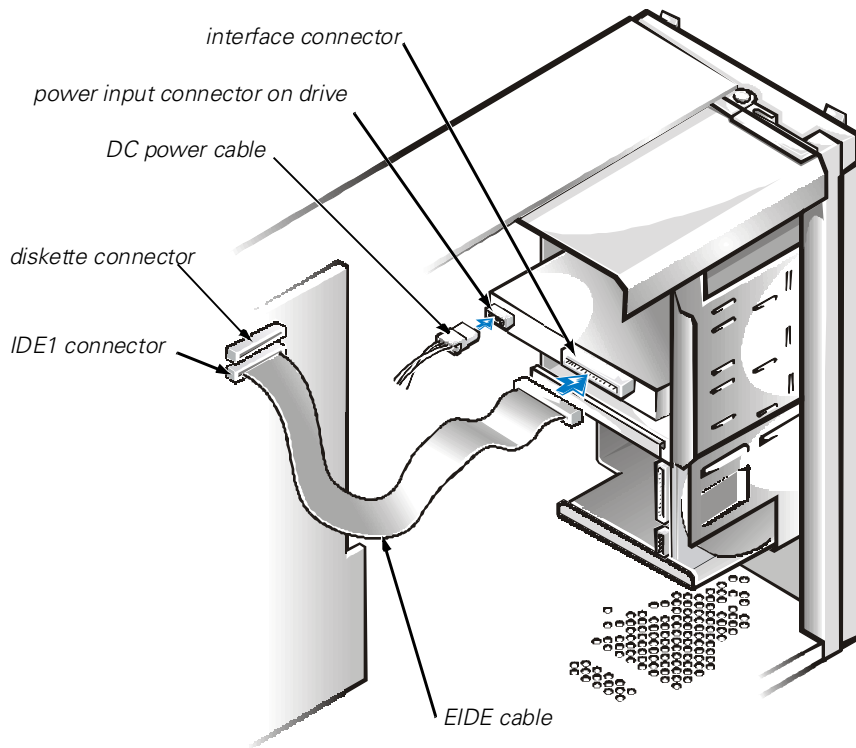

Figure 9-7. Attaching EIDE CD-ROM Drive Cables
8. Connect a DC power cable to the power input connector on the back of the drive (see Figure 9-7).
9. Connect the appropriate interface cable to the interface connector on the back of the drive (see Figure 9-7). If your system came with an EIDE CD-ROM drive, use the spare connector on the existing interface cable. Otherwise, use the EIDE or SCSI cable provided in the drive kit.